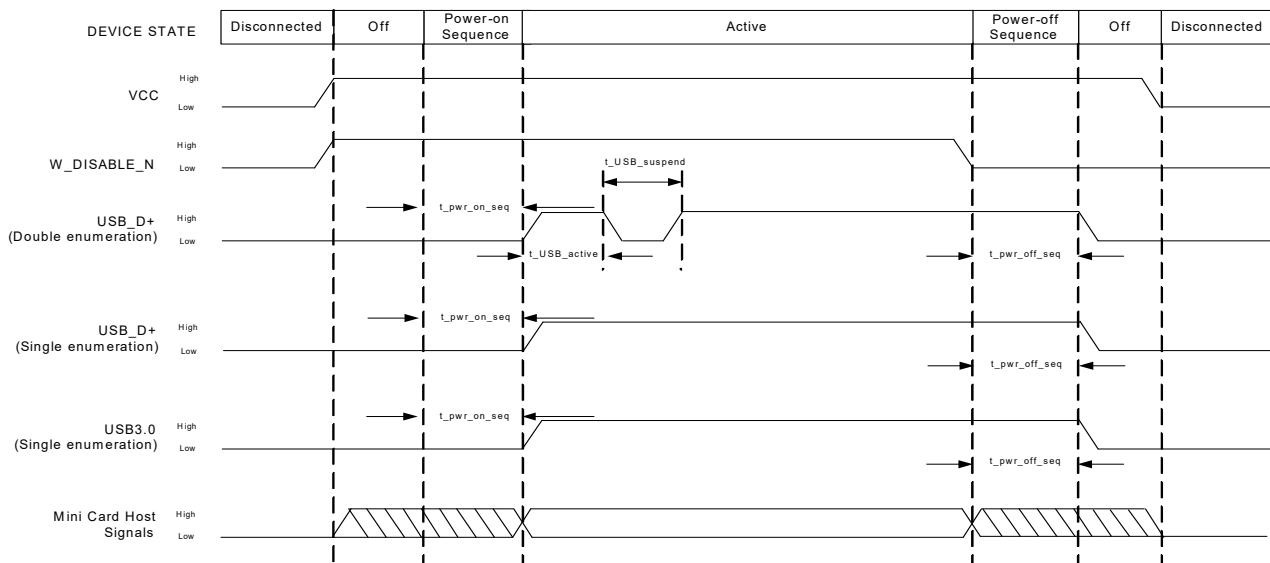

Figure 4-2: Signal Timing ($W_DISABLE_N$, and USB Enumeration)
Figure 4-2 describes the timing sequence for powering the module on and off.
- Double enumeration—As shown in Figure 4-2 on page 48: